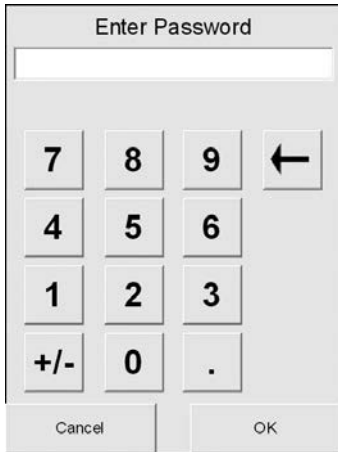

Fig. 4-35 Enter Password
4. Use the numeric keypad to enter the password (Fig. 4-35).